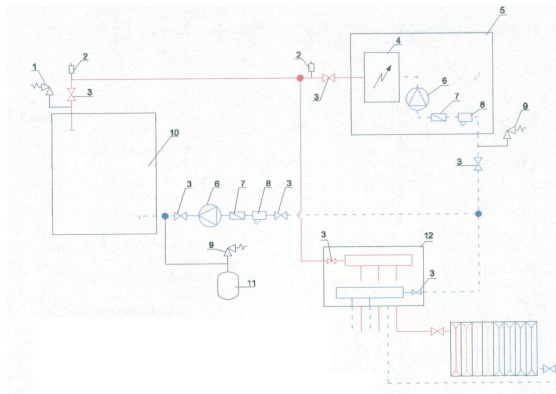

Fig. 1
9.1 Method of connecting of story (local) heating, Fig. 1	10
can be integrated also in existing heating systems parallel with solid fuel boiler (exemplary diagrams are shown on Fig. 1 and 2 page 10). It is recommended for safer operation the electric boilers to be mounted in systems operating with a pump securing enforced circulation of the heat medium.